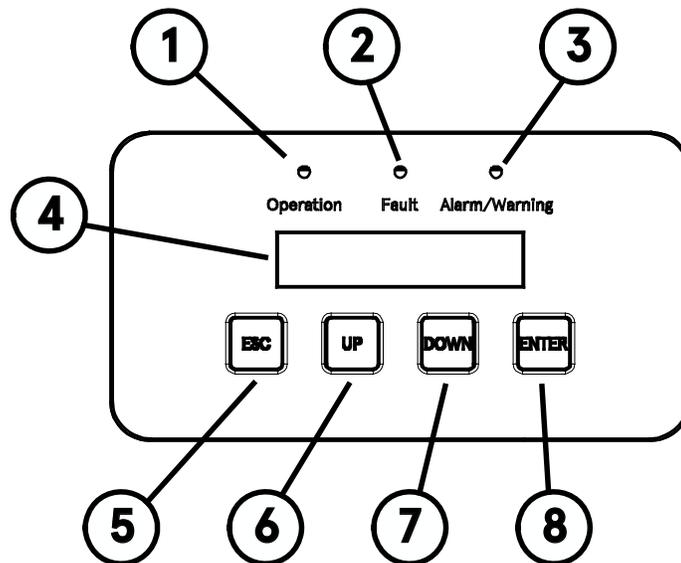

Figure 6-1: SolarCity H6 inverter LEDs, LCD display, and buttons
Figure 6-1 displays the locations of these items and controls.
The numbered callouts in *Figure 6-1* correspond to the following:
As shown in *Figure 6-1*, the SolarCity H6 inverter includes the following three LEDs:
As shown in *Figure 6-1*, the SolarCity H6 inverter includes a two (2) line LCD display with 16 characters per line. In this display:
As shown in *Figure 6-1*, the SolarCity H6 inverter includes the following four (4) push buttons: